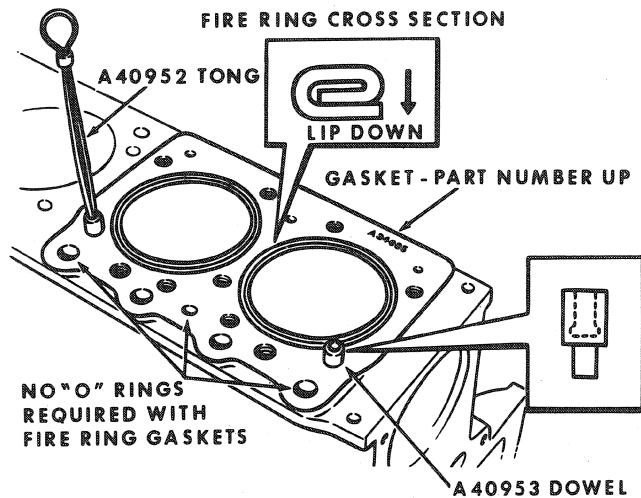

Figure K-4
- Figure K-4. Regular line-up studs could be used for most engines. In some instances it is very difficult to install the
7. Install the fire rings with the lip downwards, Figure K-4. **NOTE** Fire ring gaskets must be installed dry.